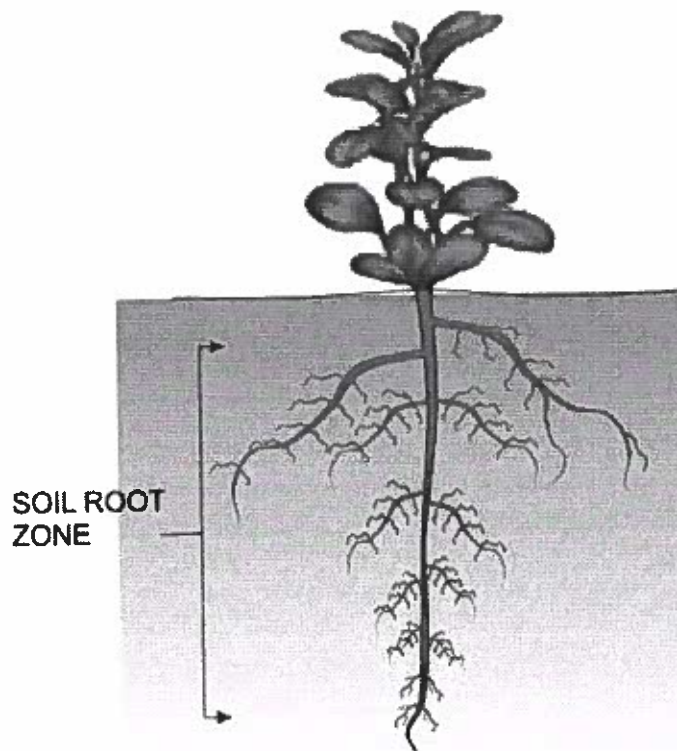

FIGURE 4 Definition of soil root zone
**1. Root Zone:** The soil root zone is the area of the soil around the plant that comes in contact with the plant root (Figure4).